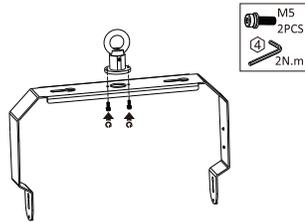

Fig. 19
2. Secure eyebolt to multi-mount bracket using the provided screws (Fig. 19).